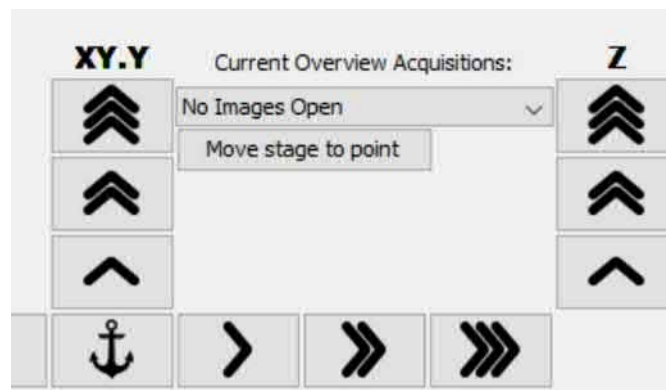
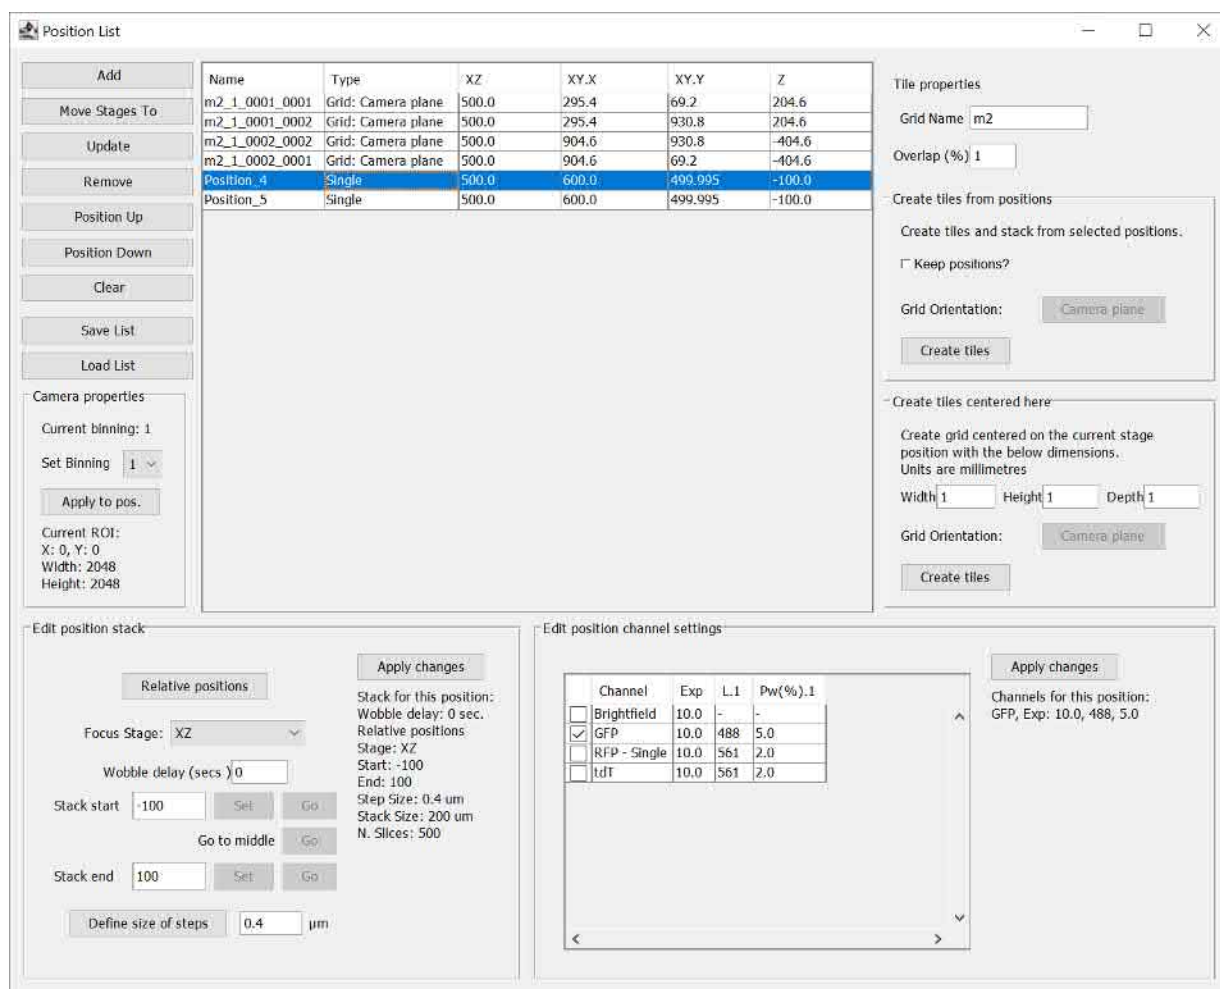

Figure 3-24 The move-to-point controls for navigating using an overview image
Figure 3-27 The Position List window
- Performed by navigating to the desired locations and pressing the anchor button in the main GUI window (Figure 3-24) or the “Add” button on the top left of the Position List (Figure 3-27).